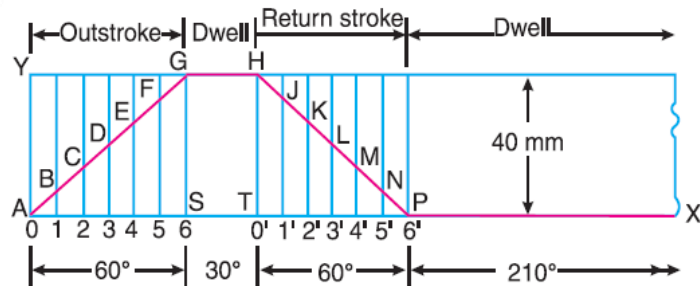

Figure 1
First of all, the displacement diagram, as shown in Figure 1, is drawn as discussed in the following steps:
2. Draw vertical line AY equal to the stroke of the follower (*i.e.* 40 mm) and complete the rectangle as shown in Figure 1.
5. The complete displacement diagram is shown by $AGHPX$ in Figure 1.
The profile of the cam when the axis of the follower passes through the axis of the cam shaft, as shown in Figure 1, is drawn as discussed in the following steps: